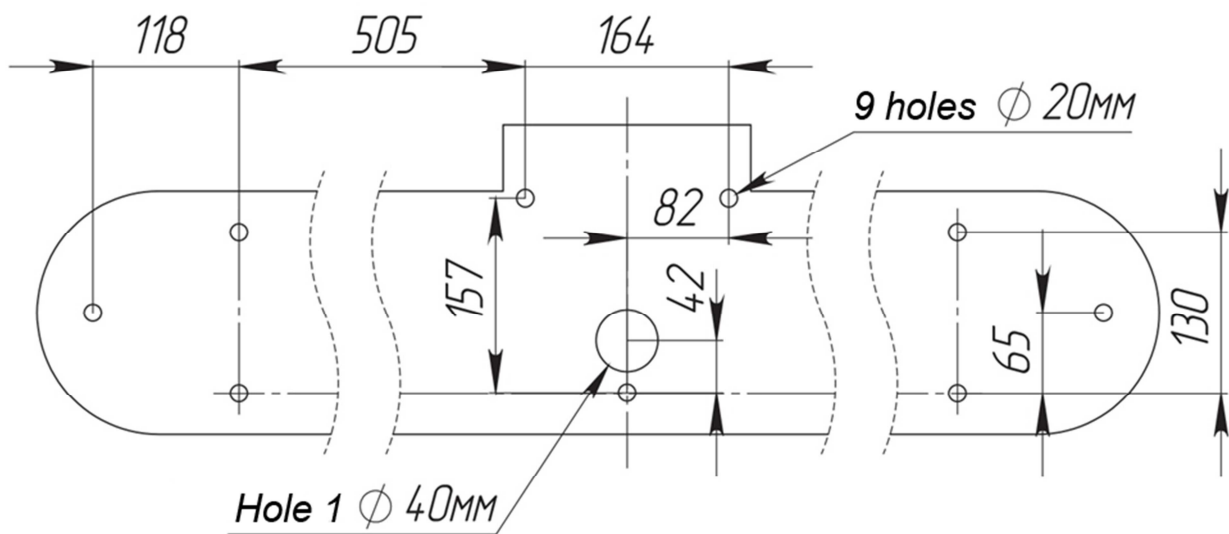
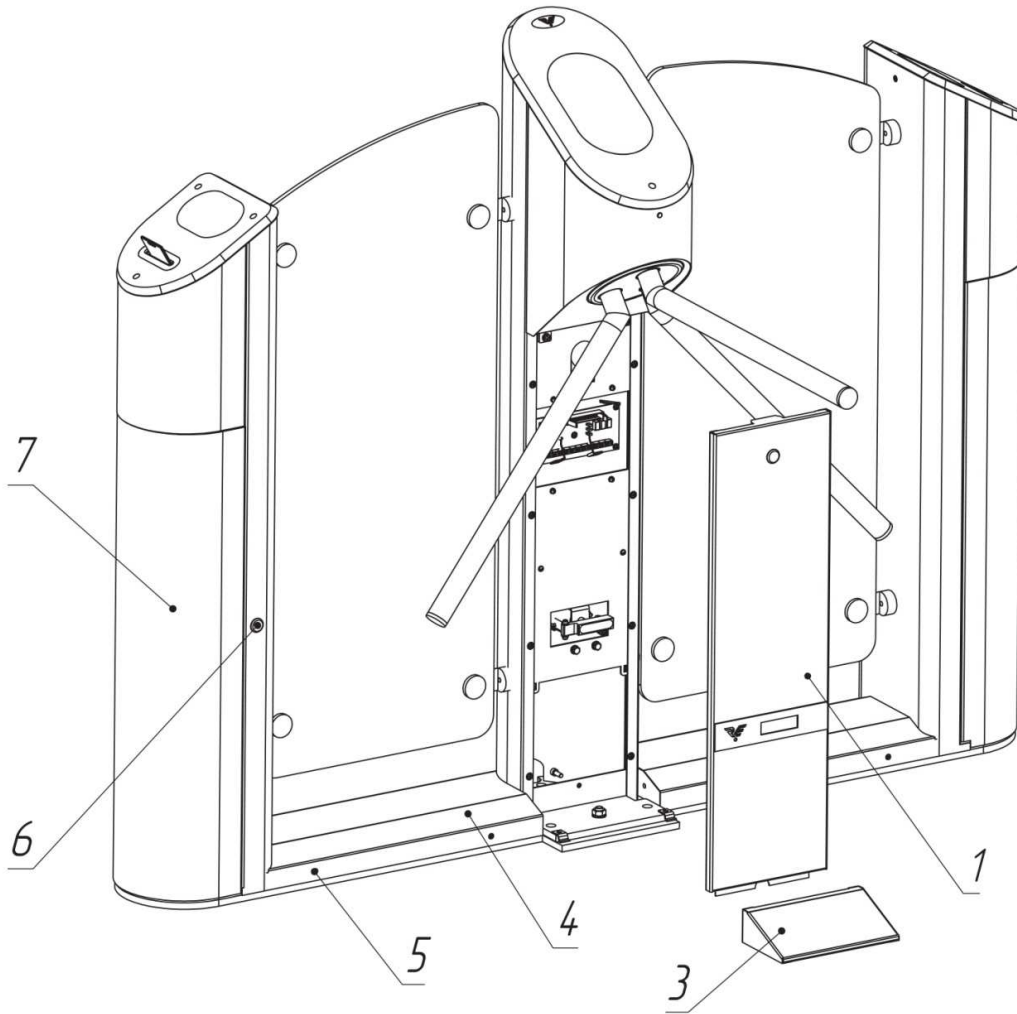
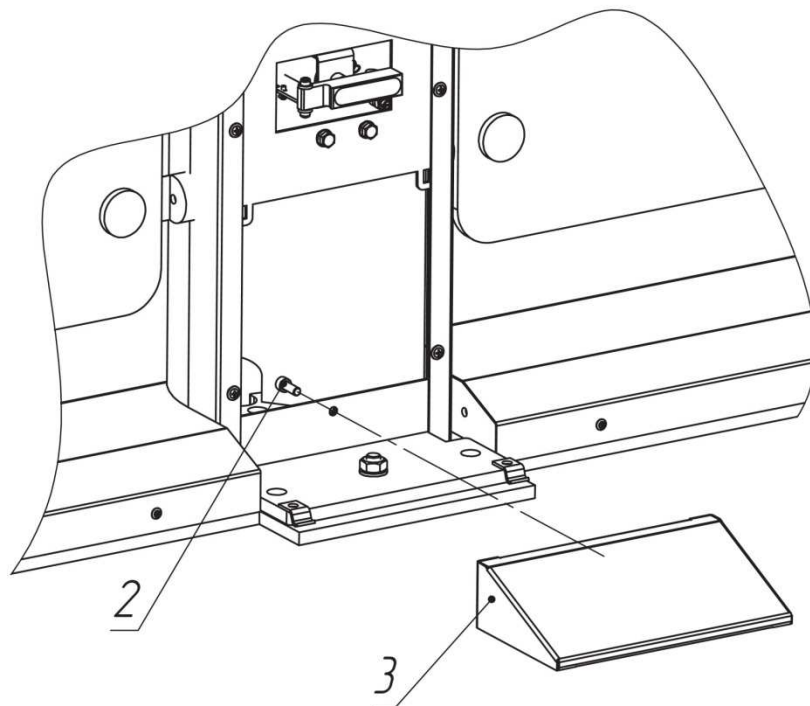
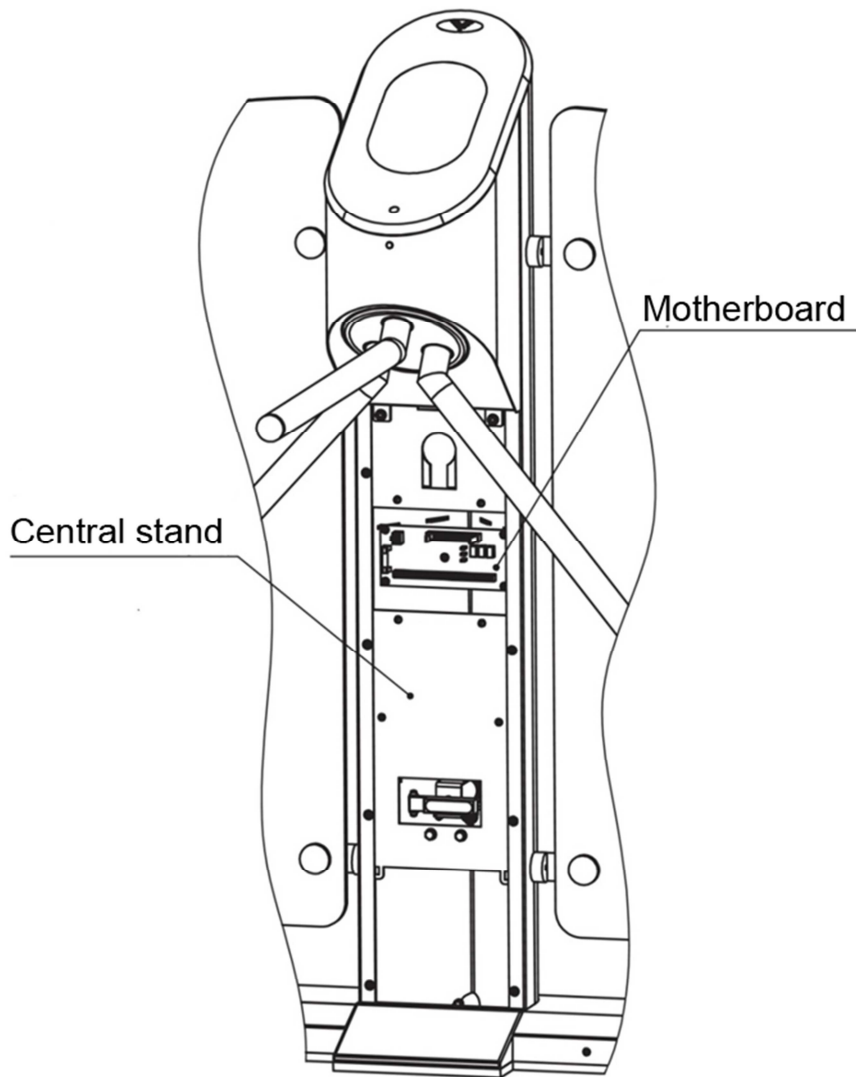

Fig. 6. Installation dimension
Fig. 7
Fig. 8 Installation diagram of turnstile
Fig. 9 Location of motherboard
4.2.3. Follow the layout (Fig. 6) prepare and drill 9 holes of 20mm diameter in the floor for anchors. Location of mounting holes according to the outer dimensions of the turnstile is shown in Appendix 3. Depth
4.2.4. Cable routing is carried out through a hole 1 (Fig. 6) in the lower plate of turnstile. Cable conduit shall be prepared.
4.2.7. Set the turnstile on a prepared site (Fig. 6). Open the lock and remove the hatch (1, Fig. 7). Undo M6 screw (2, Fig. 8) and remove the base cover of the central stand (3, Fig. 8)
4.2.8. In order to route cables into the side stand with card collector, undo four self-tapping screws (5, Fig. 7), and lift the base housing (4, Fig. 7). Unblock the lock of card collector housing (6, Fig. 7) and open the hatch (7, Fig. 7).
4.2.9. Route into turnstile housing RC and PC cables and, if necessary, FA and ACS cables. Cable routing shall be performed via hole 1 in the lower plate of turnstile (Fig. 6). Secure cables with cable ties.
Connection of RC, PS and ACS is performed with the use of motherboard. In order to do it, open turnstile hatch (1, Fig. 7) with a key. Fig. 9 shows the location of motherboard in the housing.
In order to switch to a potential mode set J1 jumper (Fig. 7). In this case the mode of left / right passage turns on only during the control signal to LEFT / RIGHT inputs. Mode of free passage can be set by control signals to both inputs simultaneously. Priorities of LEFT and RIGHT inputs at the switch to the pulse mode remain unchanged.